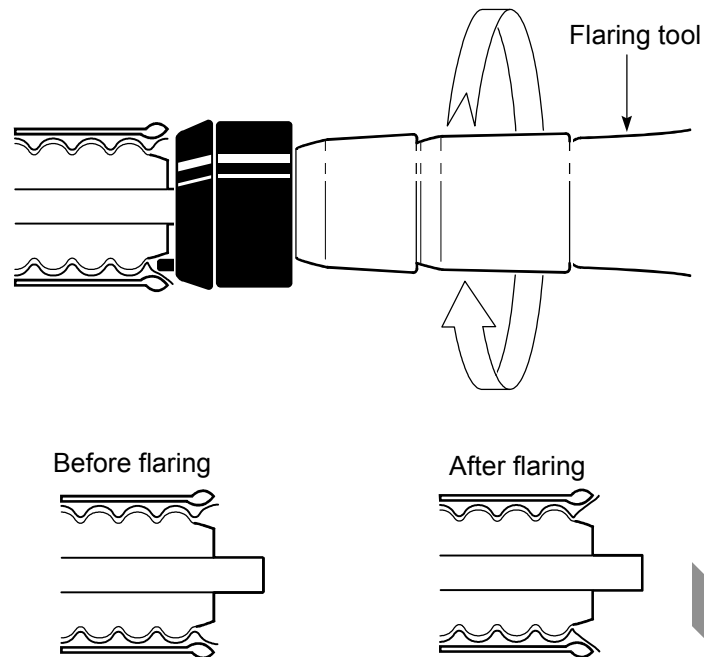

Figure 64 – Flaring the outer conductor
1. Use a flaring tool to flare the outer conductor, as shown in Figure 64. The flared outer conductor should not extend past the clamping nut fingers.